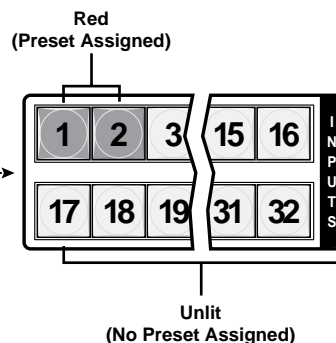

Figure 3-42 — Enter Recall Preset mode
2. Press and release the Preset button (figure 3-42).